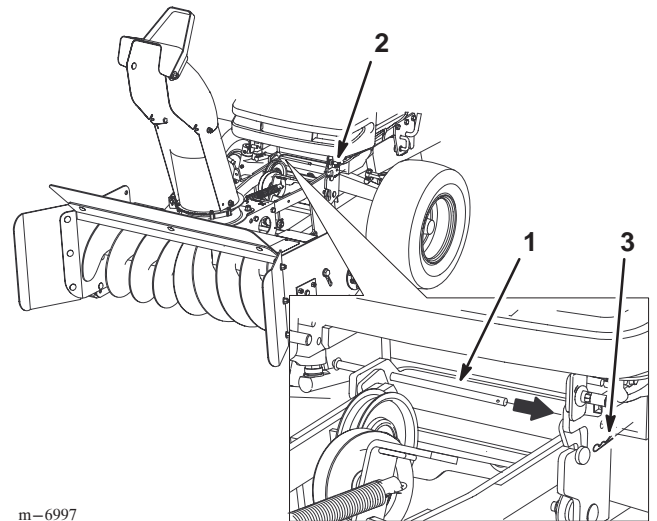

Figure 16
5. Install the stop rod into the front hitch and secure it with a hairpin cotter pin (Fig. 16).